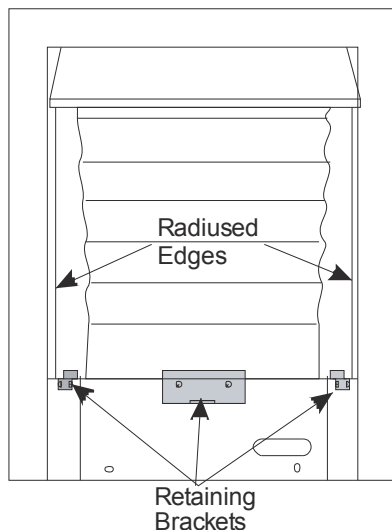

Figure 91
5. Refit in reverse order ensuring that the radiused front edges on the side panels are facing away from the flange of the firebox (see **Figure 91**). Also ensure that the top edge of the rear ceramic engages into the top retaining fold in the firebox.